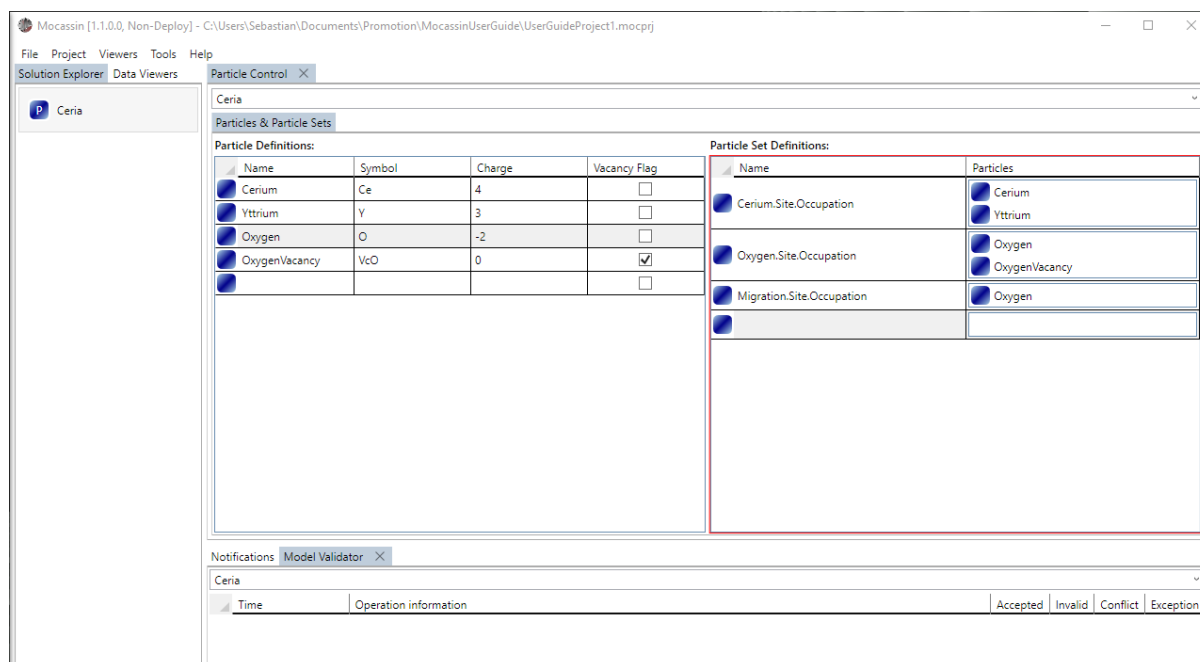

Figure 6: The particle control tab with the model objects to model yttrium-doped ceria.
- v. Your model control should look like Figure 6